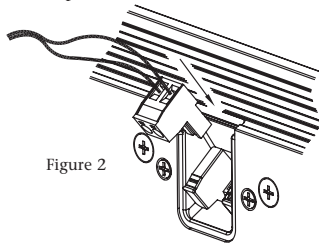

Figure 2
5. Gently push the male connector with the wire into the female receptacle on the speaker. The connector is designed so that it can only go in one way with the correct orientation of positive and negative pins. [Figure 2]